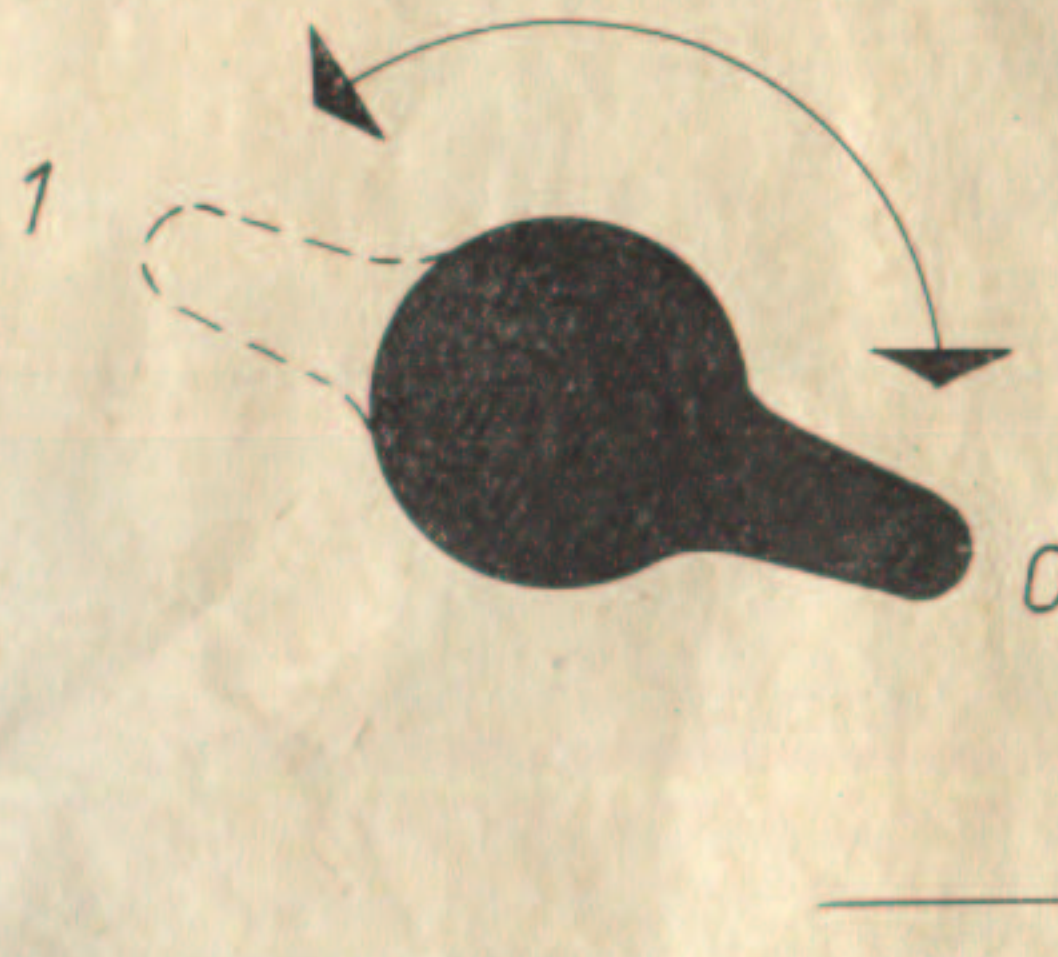
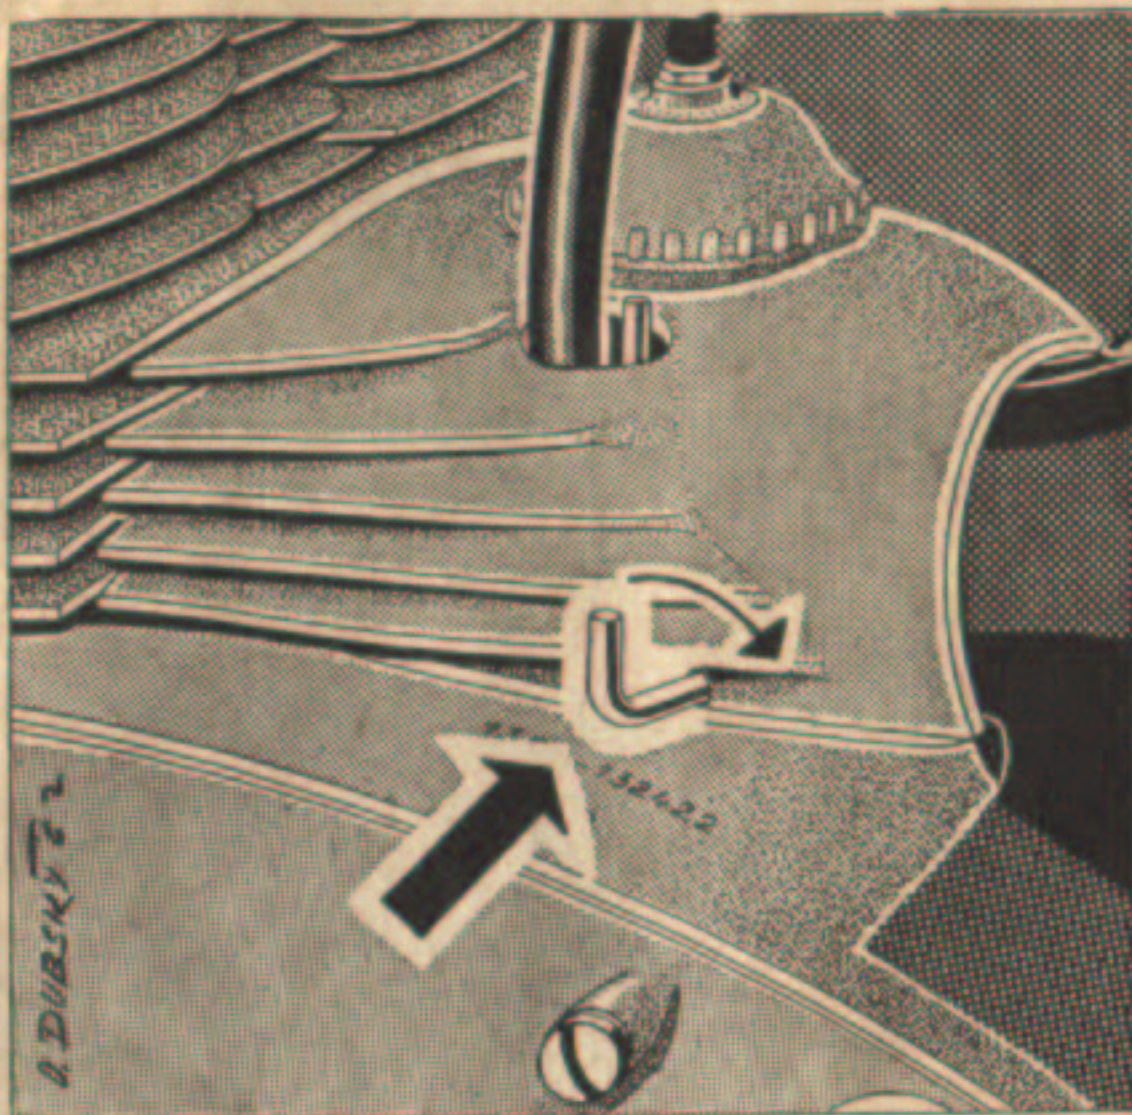

Fig. 9 - Choke ring positions (250 c. c.)
Fig. 10 - Butterfly air valve positions (350 c. c.)
- a) Open the fuel tap (turn the lever downwards) and on the motorcycle 250 c. c. turn the choke ring located at the twist grip (Fig. 9). In case of the motorcycle 350 c. c. close the carburettor air-intake by turning the air cleaner strangler (Fig. 10) and flood the carburettor by pressing down the tickler pin. It is quite useless to flood the carburettor until fuel overflows to the induction silencer where it may catch fire.